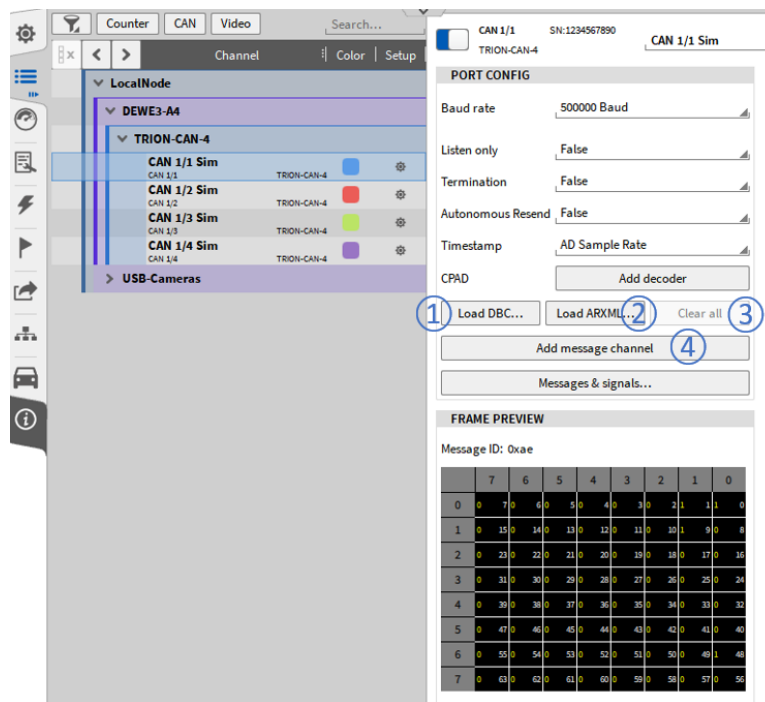

Fig. 7.201: Decoding CAN data
Thus, press *Load DBC...* (see ① in Fig. 7.201) or *Load ARXML...* (see ② in Fig. 7.201).
You can delete all decoded messages and channels by pressing the Clear All button the CAN port configuration (see ③ in Fig. 7.201).
If one or several messages available on the CAN bus should not be defined in the selected dbc- or arxml-file you can manually add them by pressing *Add message channel* (see ④ in Fig. 7.201) and defining the correct settings in the CAN message setup. More details can be found in CAN message setup.